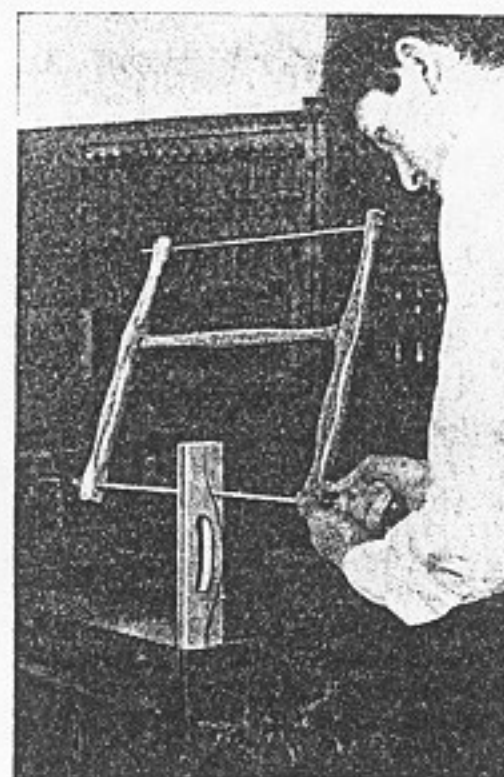

Fig. 74. Sawing with a turning saw.
2. The work is clamped in a bench vise and the saw is gripped with both hands held close together on the handle (Fig. 74). The blade may be turned in the frame if necessary to follow the line. The teeth should point away from the operator.